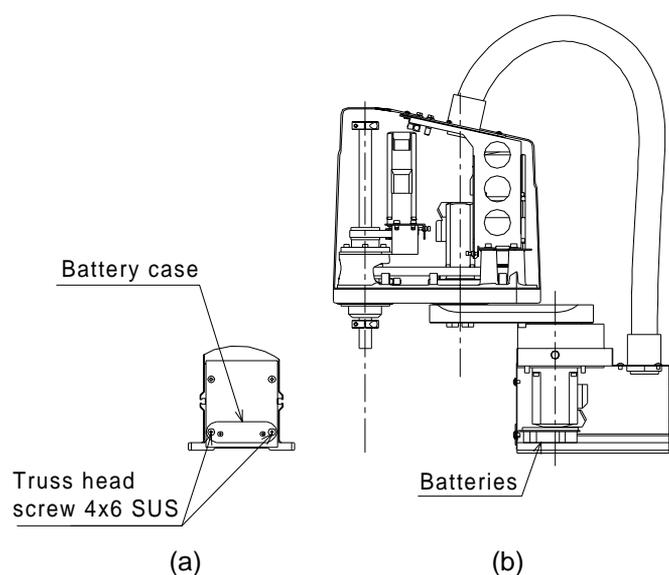
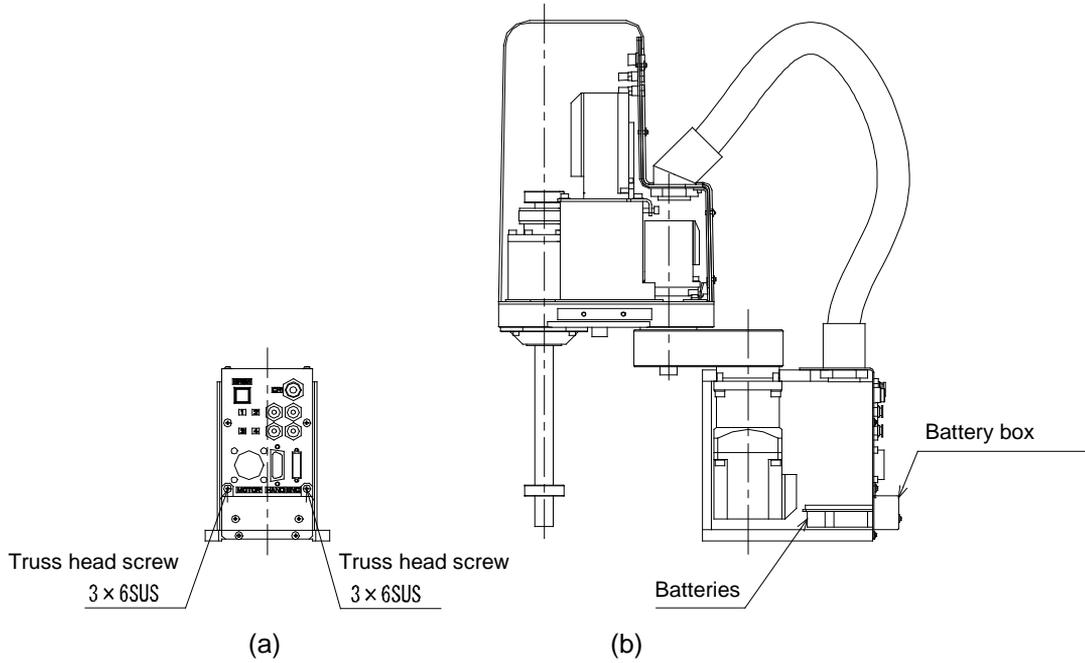
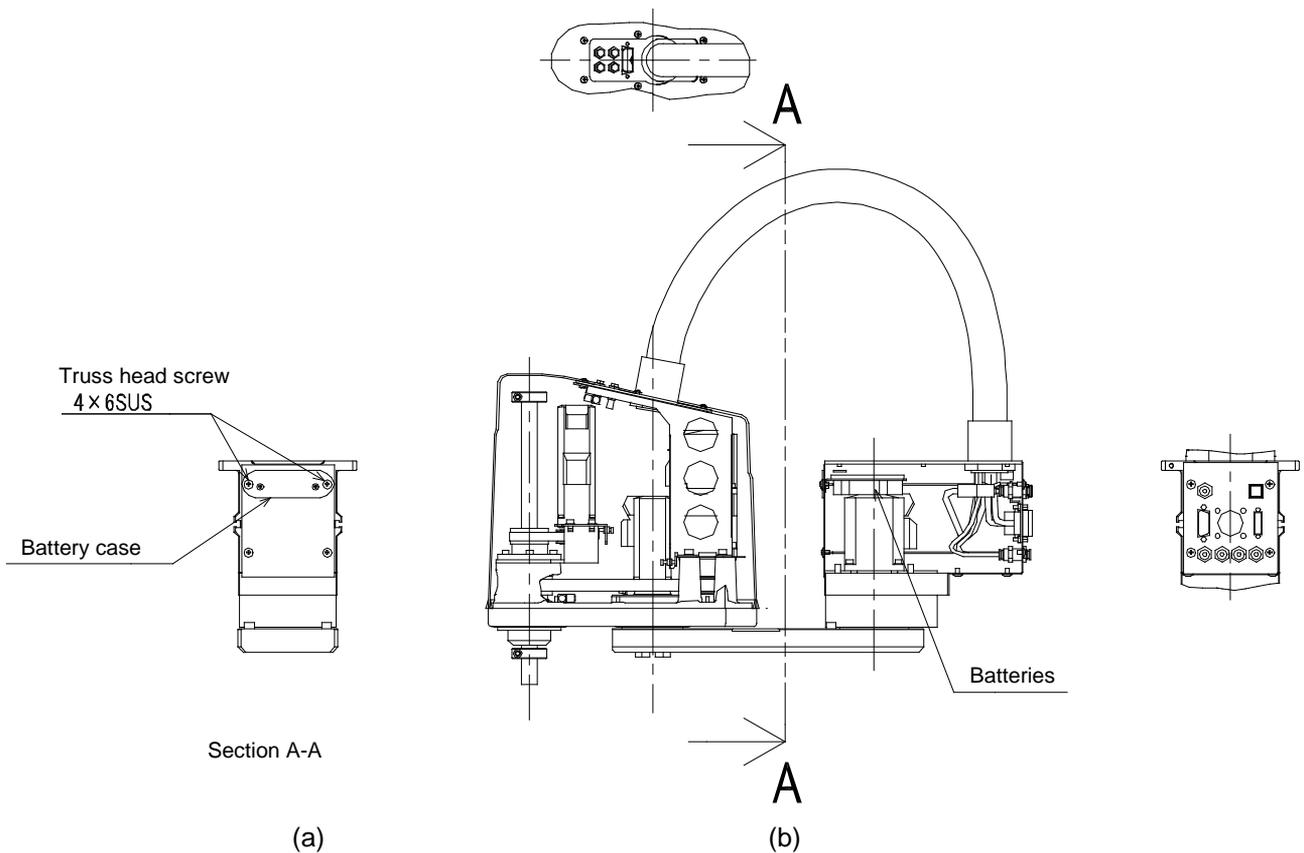

Fig. 2.14 Position detector battery set position (TH250A, TH350A)
Fig. 2.15 Position detector battery set position (TH180)
Fig. 2.16 Position detector battery set position (TH350A-T)
- 2) Remove the truss head screws 4×6 SUS or truss head screws 3×6 SUS from the robot base unit, and disengage the battery case or battery box. (See Fig. 2.14 (a), Fig. 2.15 (a) and Fig. 2.16 (a).)